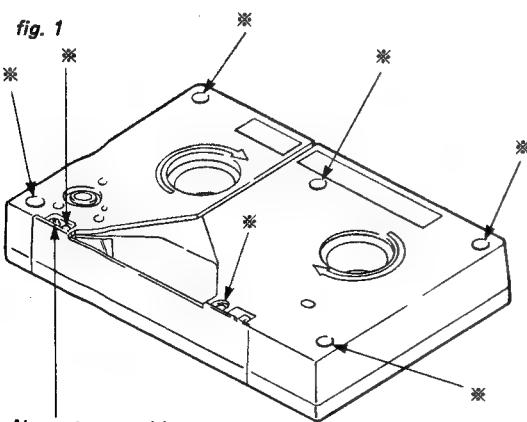

fig. 2
(2) Remove the molded portions of the cassette lid in the upper half with a flatblade screwdriver. (fig. 2)
(3) Remove the cassette lid from the upper half.
- (2) Remove the molded portions of the cassette lid in the upper half with a flatblade screwdriver. (fig. 2)
- (3) Remove the cassette lid from the upper half.